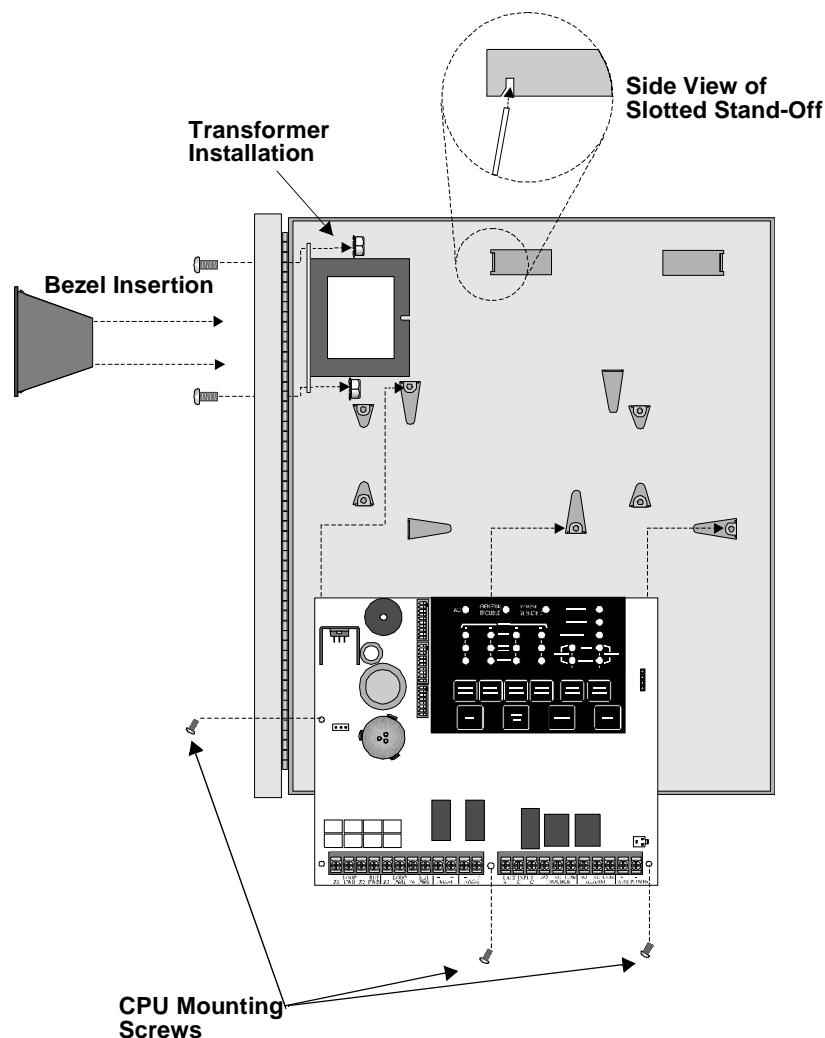

Figure 3-3 Assembly Diagram for the SK-4224
4. Snap the bezel into the opening in the front of the cabinet. See Figure 3-3.
5. With the two #8 screws and nuts (with built in washers), mount the transformer in the holes in the upper left hand corner of the cabinet. See Figure 3-3.